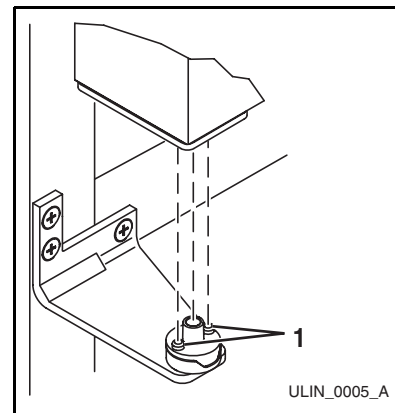
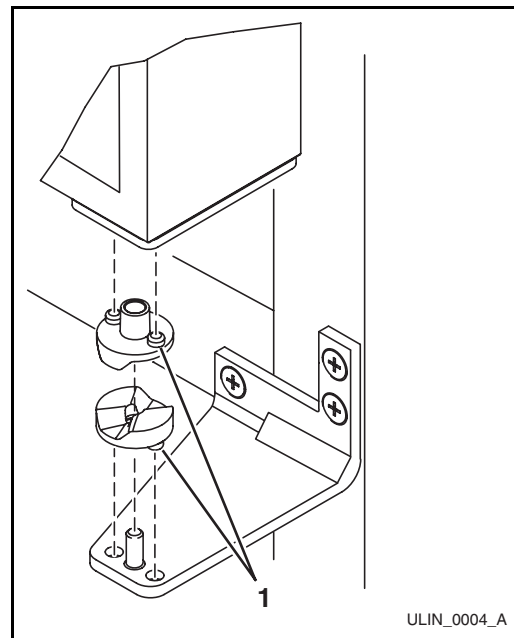

Figure 21
Figure 22
4. Install the removed top hinge mount on opposite side **BOTTOM** (**Figure 21**).
5. Remove the two door closer inserts (**Figure 22, 1**) from the existing bottom hinge and install as shown on the new bottom hinge (**Figure 21, 1**).
9. Holding door upright with top of door tilted forward, place hole of door pivot plate on bottom hinge screw pin/closer inserts (**Figure 21, 1**).